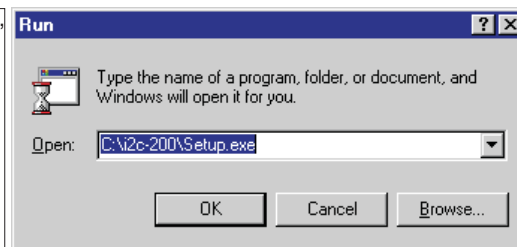
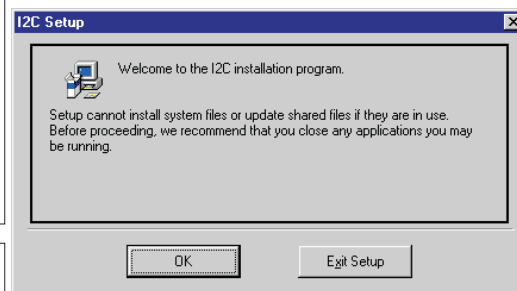

Fig. 1
Fig. 2
(As Fig. 1)
2. Click "OK" of Fig.1, bring up "Fig. 2"
3. Click "OK" of Fig. 2, bring up "Fig. 3"